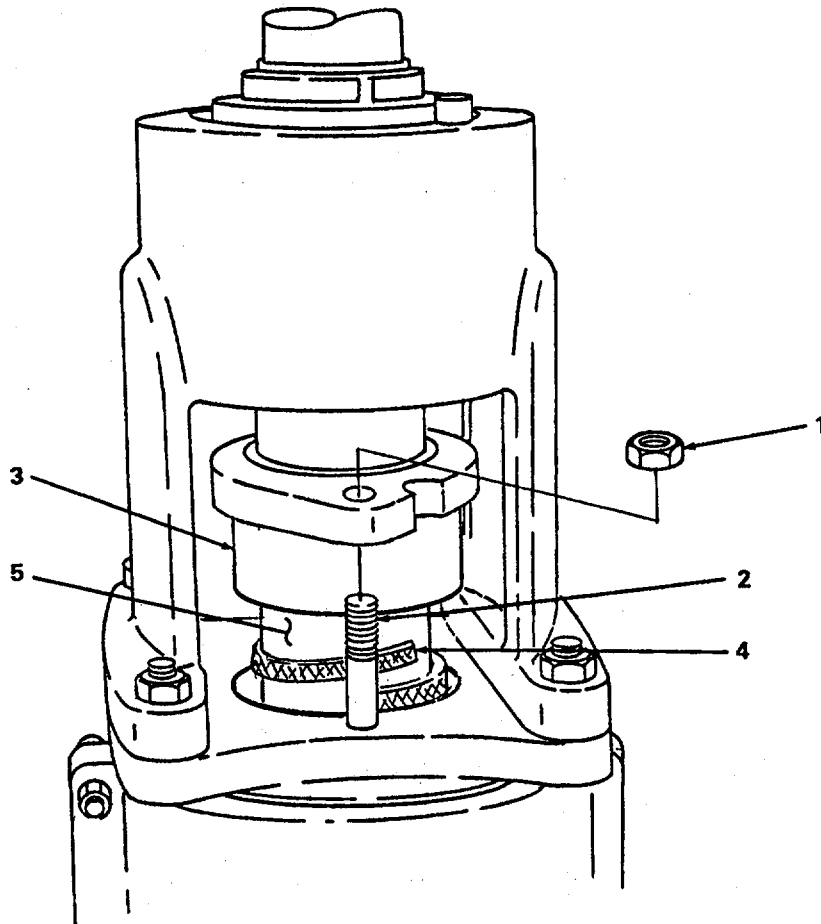

Figure 5-20. Repacking Pump Gland.
- (1) Remove packing gland.
Remove two nuts (1, figure 5-20) from studs (2) and remove packing gland (3).
- (2) Remove old packing.